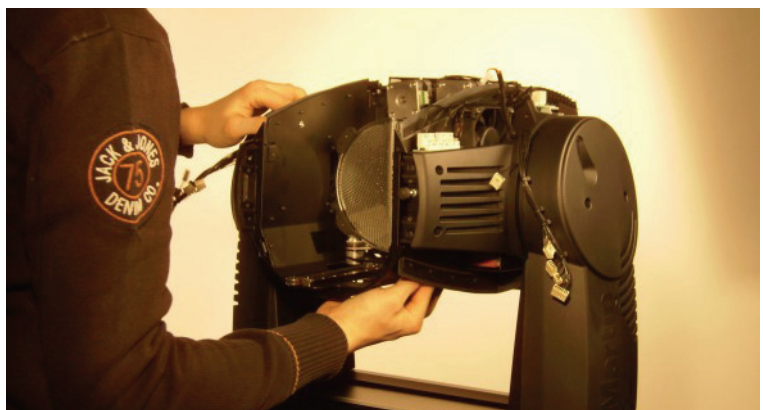

Figure 42
46. See Figure 42. Lift the zoom/focus module out of the head and set it to one side.